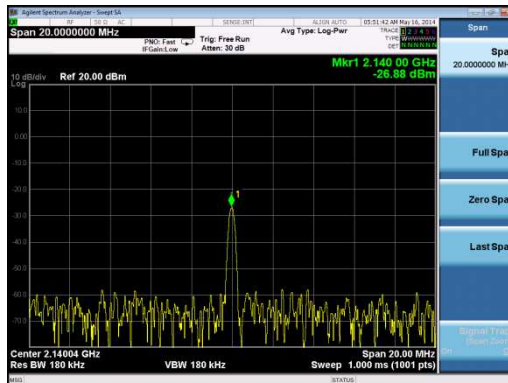

Figure 13 Basic TX testing using DC offset resulting in LO leakage
When the transmitter is configured as shown in section 5.2, the TX1_A output (socket X1) can be connected to a spectrum analyzer (SA). With the SA you can now observe the results of this basic operational test (Figure 13). The test is looking at the DC offset from the un-programmed data DAC as LO leakage and the example shown below is measuring a value of -26.8dBm.